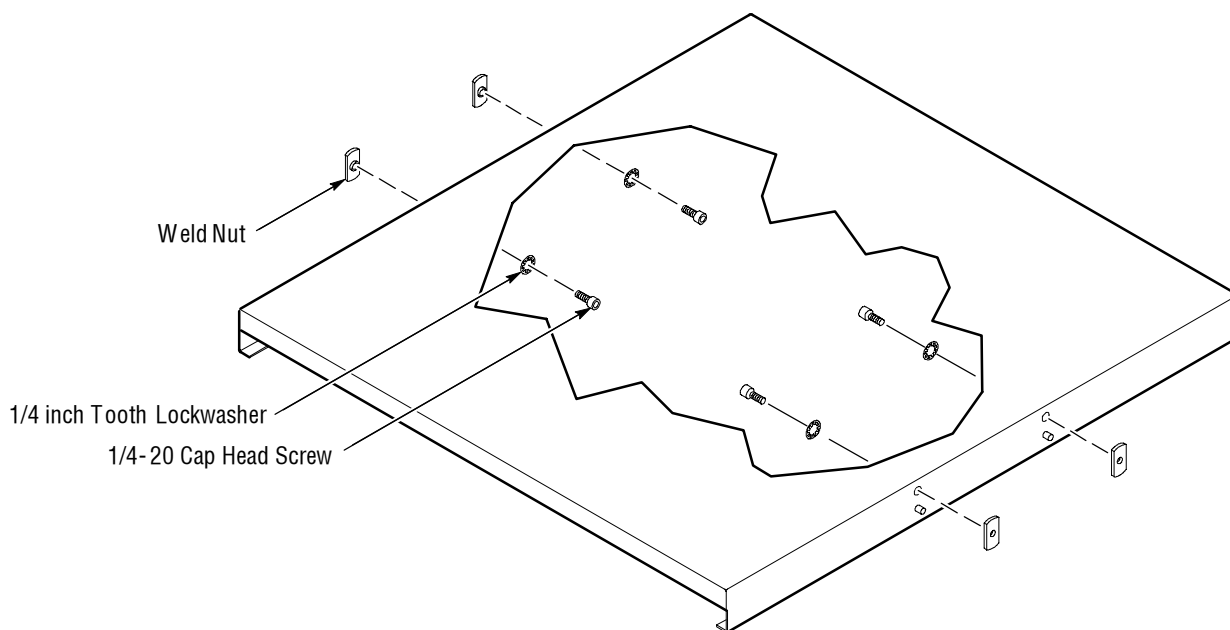

Figure 6: Preparing the Drawer Shelf
1. Prepare the drawer shelf as shown in Figure 6 by installing a cap head screw, a tooth lockwasher, and a weld nut in each of the four side holes of the shelf. Leave each screw assembly loose; do not screw the weld nut onto the cap head screw more than one full turn.